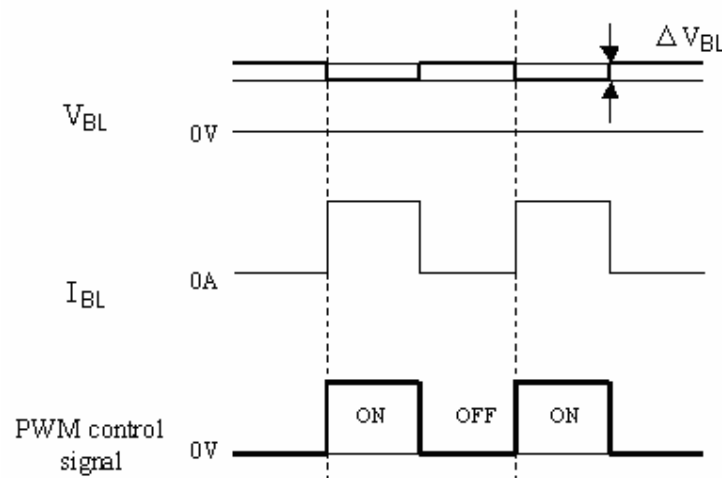

Fig.4 Brightness control voltage.
- c) Brightness control voltage is switched for "ON" and "OFF", as shown in Fig.4. Voltage difference generated by this switching, V_{BL} , may affect a sound output, etc. when the power supply is shared between the inverter and its surrounding circuit. So, separate the power supply of the inverter circuit with the one of its surrounding circuit.